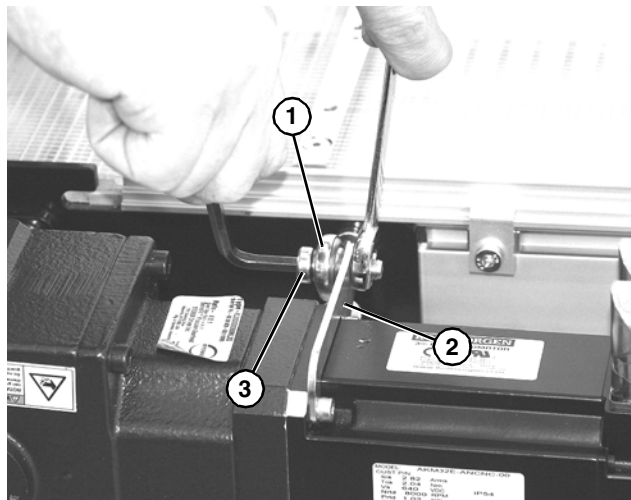

Figure 62
6. Install new servo assembly. Raise servo motor and rotate anti-rotation adjustable rod (**Figure 62, item 1**) fully upward, and then lower servo assembly.
7. Secure top of anti-rotation adjustable rod (**Figure 62, item 1**) onto bracket (**Figure 62, item 2**) on servo motor assembly with socket head bolt (**Figure 62, item 3**) and nut.